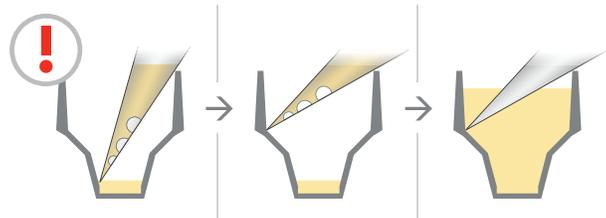

Figure 7. If bubbles are introduced during the washing/dispensing step.
- c. If bubbles are created during washing/dispensing, raise the pipette and slowly redispense the volume along the upper half of the well wall and repeat the aspiration step (Figure 7).